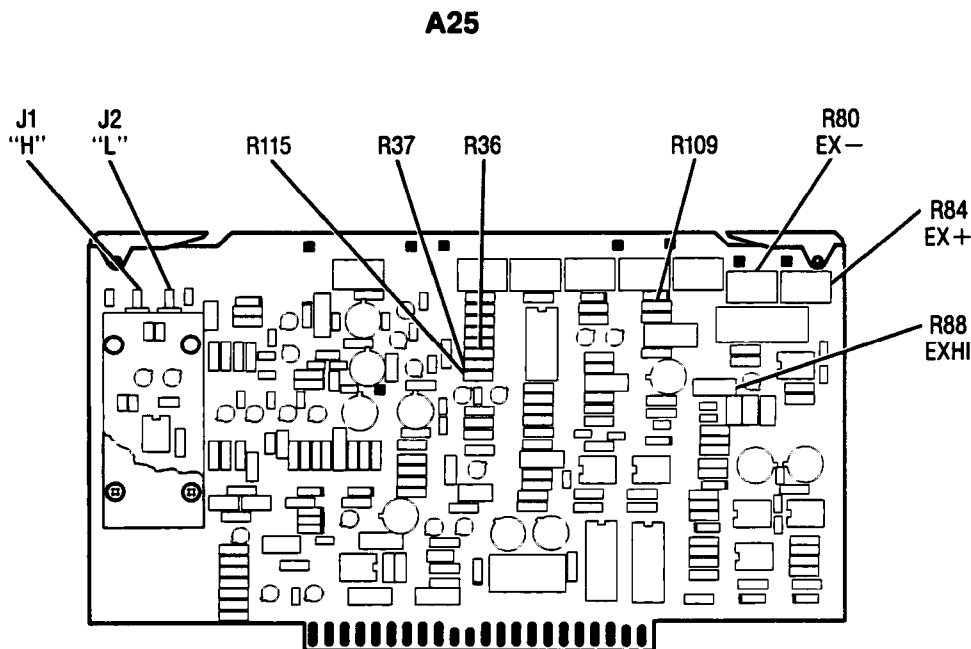

Figure 5-46. ALC Detector A25 Temperature Compensation Adjustments Location
2. Disconnect cables W26 and W27 from A25J2 and A25J1 respectively (Figure 5-46), and remove the A25 PC board from the instrument.